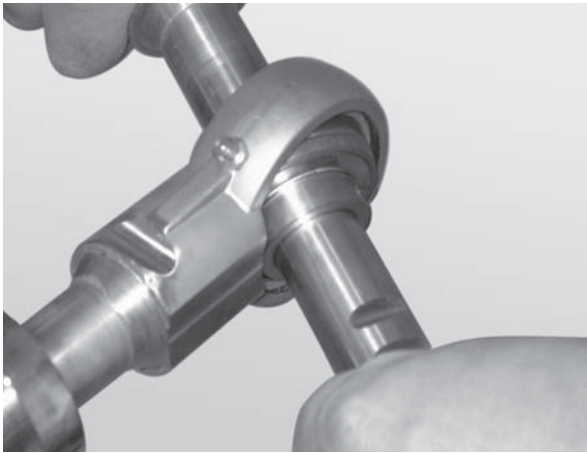

Figure 71
2. Insert the rod end of a second bearing shaft through the bearing (**Figure 71**).